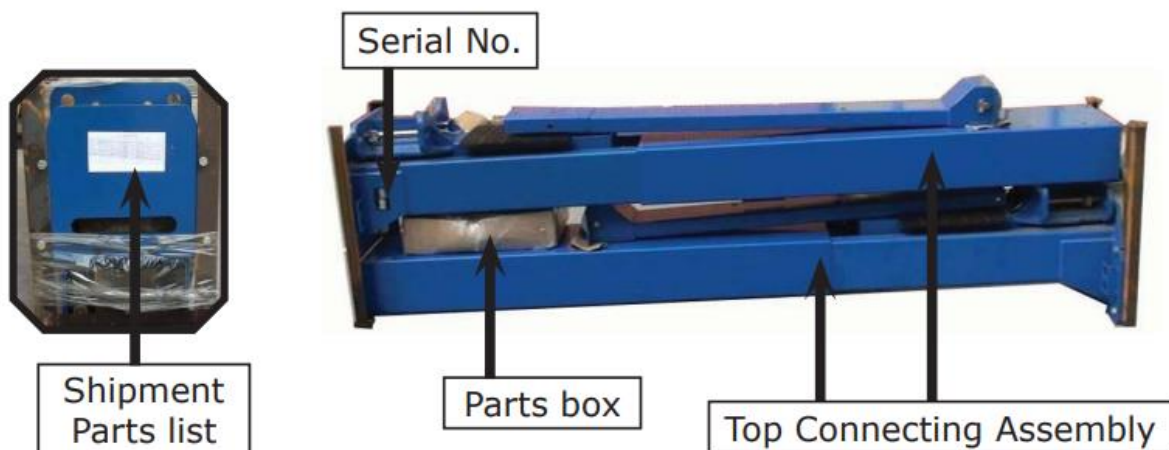

Fig. 9
2. Move the lift aside with a forklift or hoist, and open the outer packing carefully and move aside the top connecting assy. and parts box (See Fig. 9).